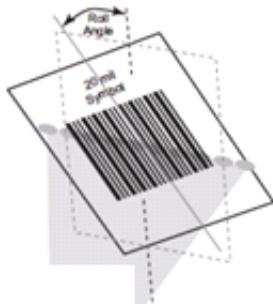

Fig. 1-13
- ✧ Roll :  $\pm 30^\circ$ ,  $0^\circ$  Pitch and  $0^\circ$  Skew (Fig. 1-13)